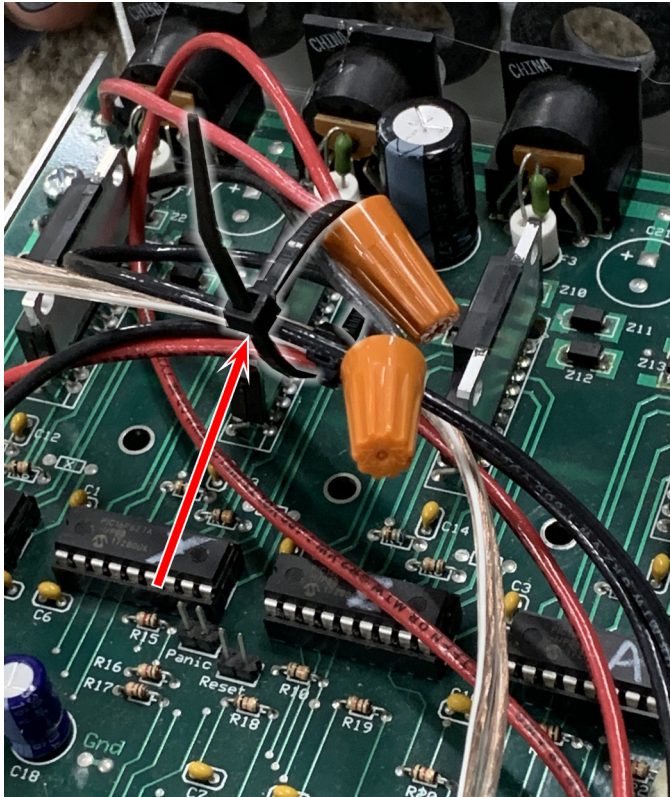

FIGURE 28—The red arrow points to the zip tie around the wires.
10. Once the wiring is done, use a small zip tie and secure these wires to the main red and black wires that are on the driver box base (see Figure 28).